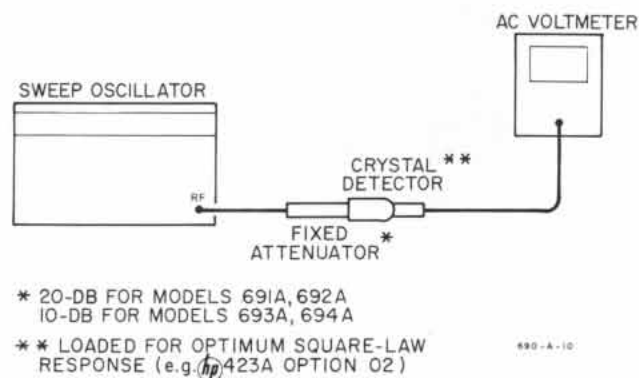

Figure 5-5. Setup for Measuring Residual AM
a. Connect equipment as shown in Figure 5-5.
b. Set Sweep Oscillator for single-frequency (CW) operation, any frequency.